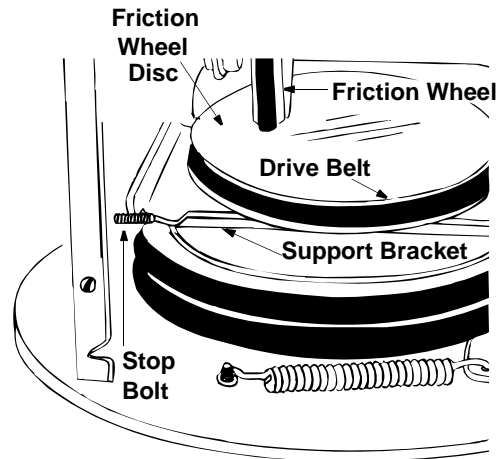

Figure 24
- Using an adjustable wrench, loosen the nut on the stop bolt until the support bracket rest on the auger pulley. See Figure 24.
- Slip belt between friction wheel and friction wheel disc. See Figure 24. Remove and replace belt. Reassemble, following the instructions in reverse order.
**NOTE:** The support bracket must rest on the stop bolt after the new belt has been assembled. See Figure 24.